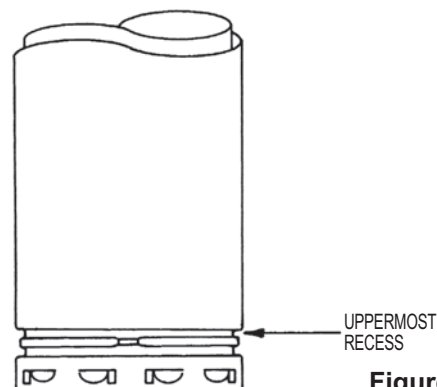

Figure 12
2. The circular cutout in the Round Support Plate is designed to engage the uppermost recess in the female end of the Vent Pipe. See **Figure 12**.